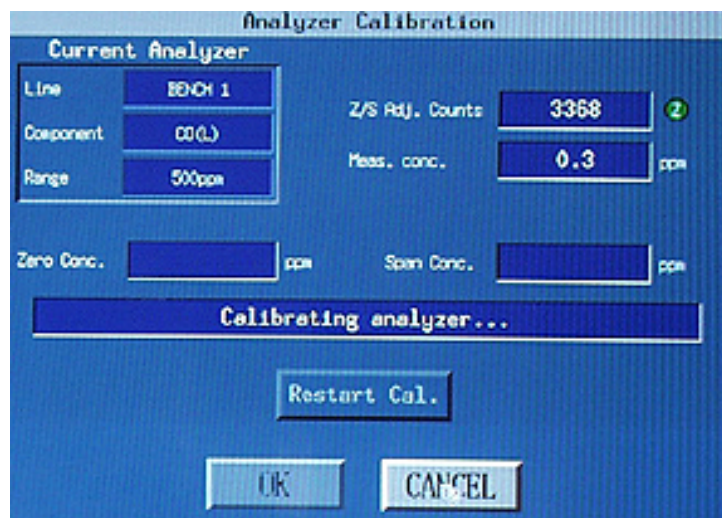

Figure 16
- 118 The “Analyzer Calibration” screen will appear, See Figure 16. When completed, “Calibration successfully completed” will appear. Click on “OK.” The “Interference Check Result Reset” panel will appear. If “Calibration Failed” appears, the process was not successful.